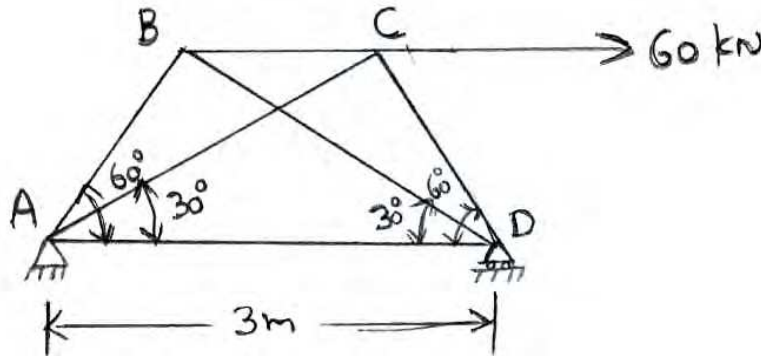

Figure 4
4. The pin-jointed truss shown in Figure 4 is having supports at A and D and is subjected to a horizontal force of 60 kN at C. Determine the forces developed in all members of the truss. Given cross-sectional areas of all members =  $6000\text{mm}^2$ , Young's Modulus  $200\text{ kN/mm}^2$ . [16]